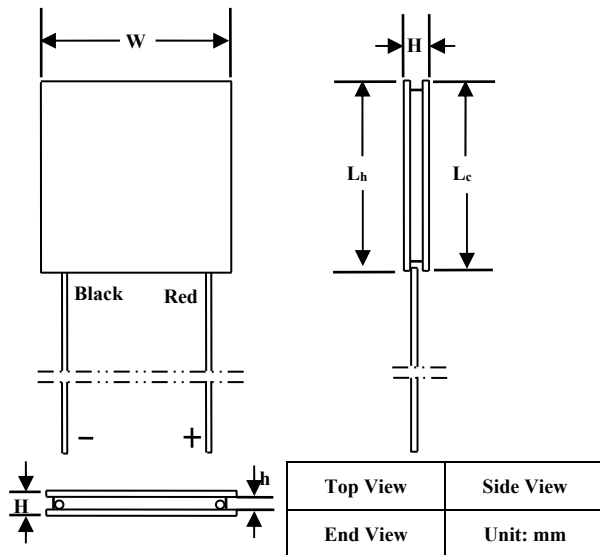

Figure 10. Mechanical Dimensions of Sealed ATE1-17
**Note:** As Figure 10 shows, when the red lead wire is on the right, then the top surface is the cold side of the TEC.